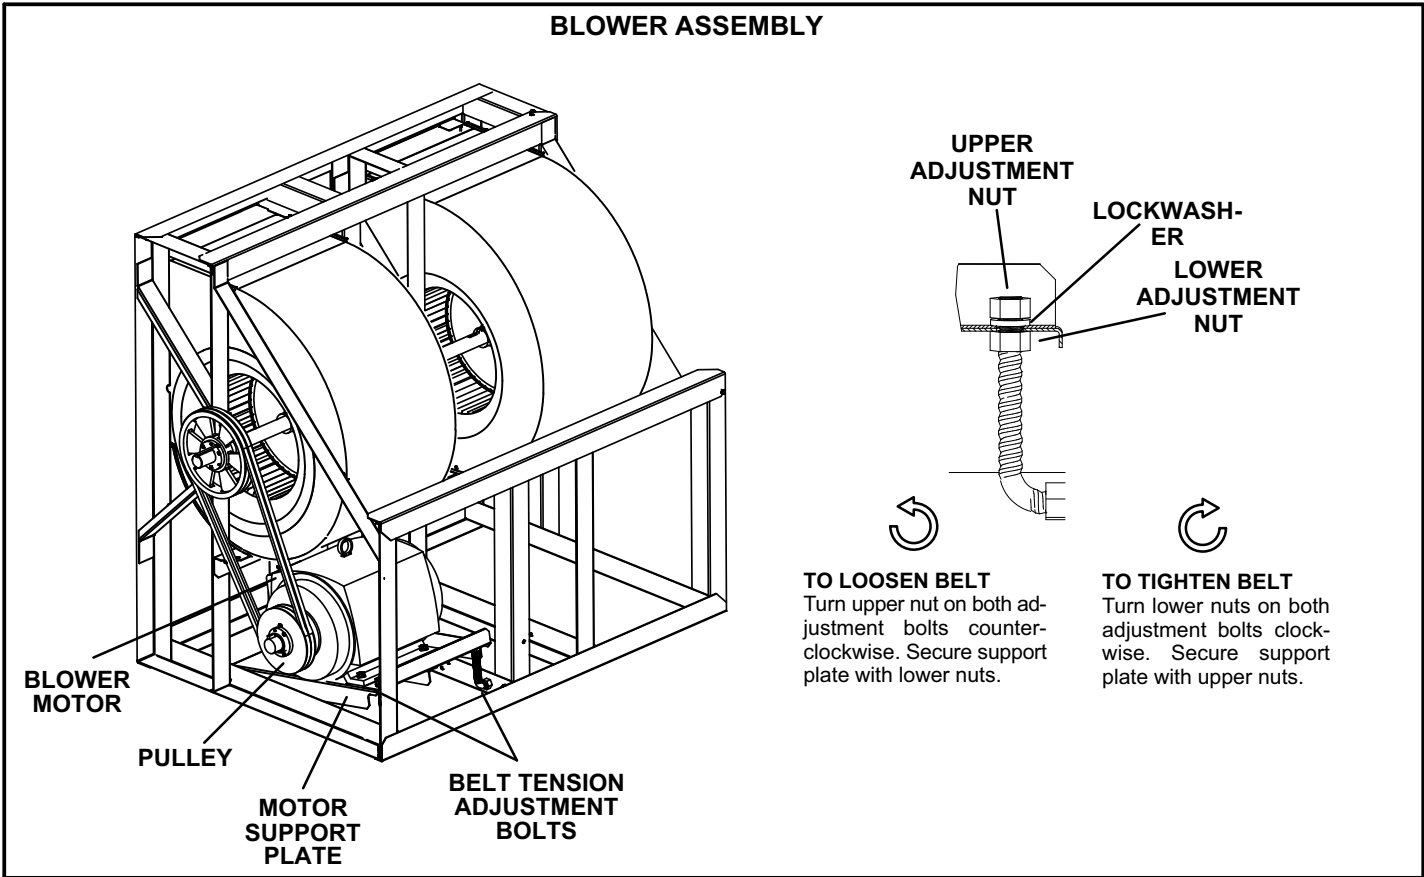

FIGURE 25
Maximum life and wear can be obtained from belts only if proper pulley alignment and belt tension are maintained. Tighten belt as shown in figure 25.
- 2-The RPM can be adjusted at the motor pulley. Loosen Allen screw and turn adjustable pulley clockwise to increase CFM. Turn counterclockwise to decrease CFM. See figure 25.